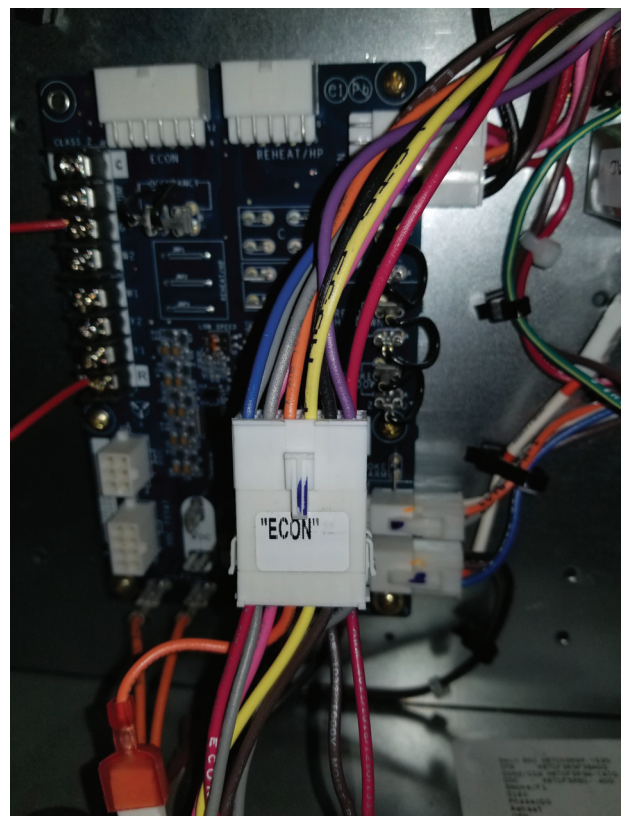

Fig. 17 — Connect 12-pin Plugs Together
29. Connect the 12-pin male ECON plug removed from the UCB to the 12-pin female plug from the controller harness. Refer to Fig. 17 and wiring diagrams on pages 9 and 10.